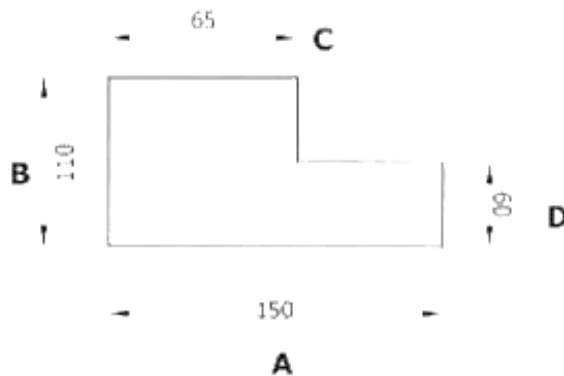

Figure 4
- 13 Dimensions or measurements are required to be placed on any drawings as shown in **Figure 4** below: